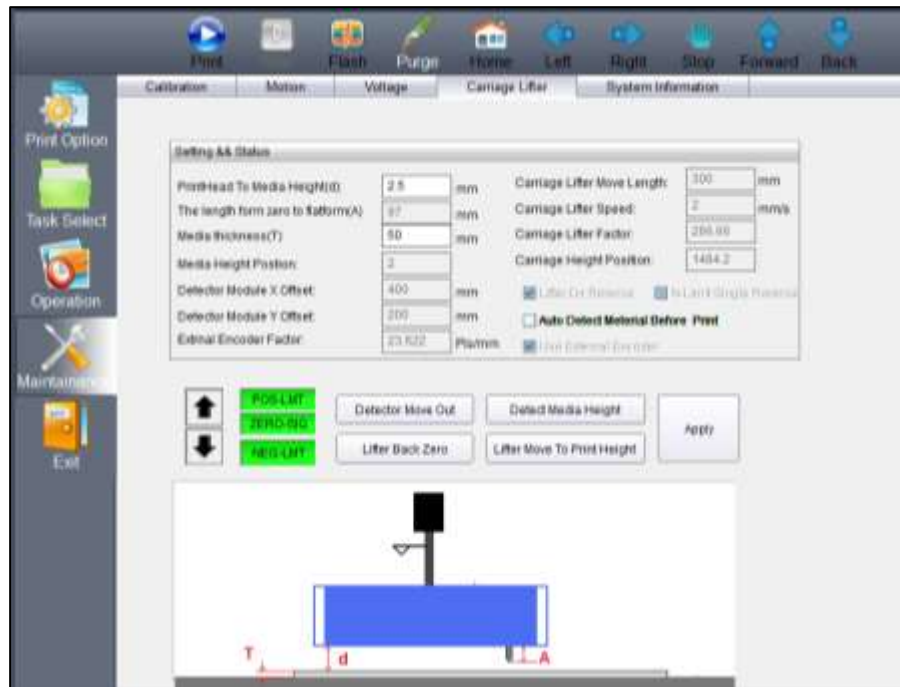

Fig 10: Detecting Head Height
**Step 12:** Press the **Detect Media Height** button to sense the media height (Refer to Fig 10).
**Step 14:** Lift the carriage up by pressing the **Lifter Back Zero** button on the **Carriage Lifter** tab under the **Maintenance** menu (Refer to Fig 10).
**Step 15:** Press the **Purging** button (Refer to Fig 10) and clean print heads using the tissue provided with the printer.
**Step 16:** Bring down the carriage by pressing the **Lifter Move to Print Height** button (Refer to Fig 10)
- After providing offset details, click on the **Apply** button (Refer to Fig 10).